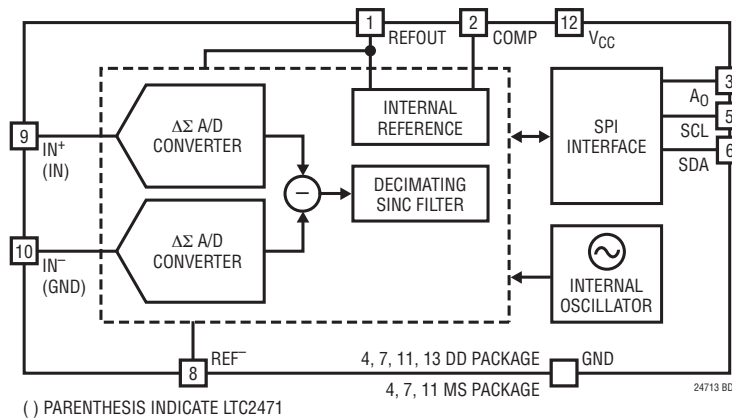
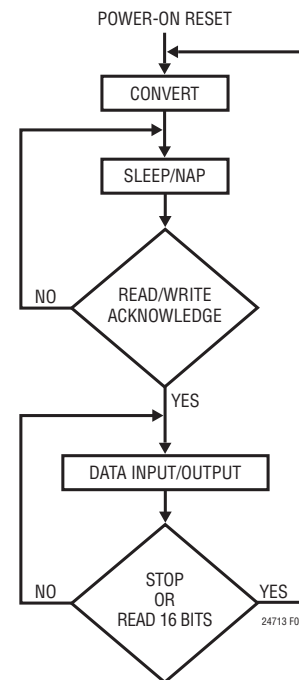
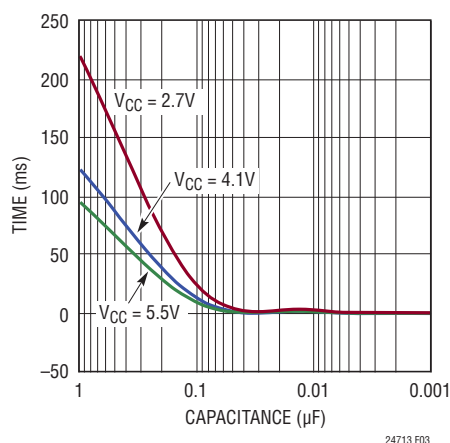
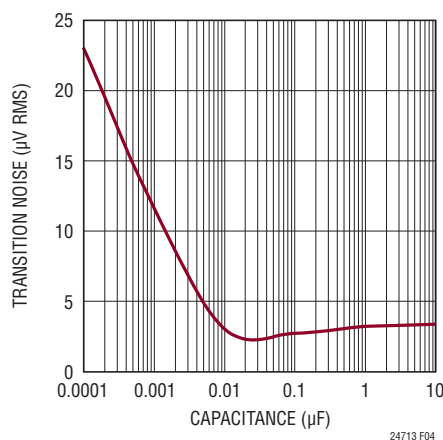

Figure 1. Functional Block Diagram
Figure 2. LTC2471/LTC2473 State Transition Diagram
Figure 3. Reference Start-Up Time vs V_{REF} and Compensation Capacitance
Figure 4. Transition Noise RMS vs COMP and Reference Capacitance
The LTC2471/LTC2473 are low power, delta sigma, analog to digital converters with a simple I²C interface and a user selected 250sps/1ksps output rate (see Figure 1). The LTC2473 has a fully differential input while the LTC2471 is single-ended. Both are pin and software compatible. Their operation is composed of three distinct states: CONVERT, SLEEP/NAP, and DATA INPUT/OUTPUT. The operation begins with the CONVERT state (see Figure 2). Once the conversion is finished, the converter automatically powers down (NAP) or under user control, both the converter and reference are powered down (SLEEP). The conversion result is held in a static register while the device is in this state. The cycle concludes with the DATA INPUT/OUTPUT state. Once all 16-bits are read or an abort is initiated, the device begins a new conversion.
While in the SLEEP/NAP state, the LTC2471/LTC2473's converters are powered down. This reduces the supply current by approximately 70%. While in the NAP state the reference remains powered up. The user can power down both the reference and the converter by enabling the sleep mode during the DATA INPUT/OUTPUT state. Once the next conversion is complete with the sleep mode enabled, the SLEEP state is entered and power is reduced to 2 μ A (maximum). The reference is powered up once a valid read/write is acknowledged. The reference startup time is 12ms (if the reference and compensation capacitor values are both 0.1 μ F). As the reference and compensation capacitors are decreased, the startup time is reduced (see Figure 3), but the transition noise increases (see Figure 4).
approximately 0.5ms. For proper operation V_{DD} needs to be restored to normal operating range (2.7V to 5.5V) before the conclusion of the POR cycle. The POR signal clears all internal registers. Following the POR signal, the LTC2471/LTC2473 start a conversion cycle and follow the succession of states shown in Figure 2. The reference startup time following a POR is 12ms ($C_{COMP} = C_{REFOUT} = 0.1\mu$ F). The first conversion following power-up will be invalid if the reference voltage has not completely settled (see Figure 3). The first conversion following power up can be discarded using the data abort command or simply read and ignored. Depending on the value chosen for C_{COMP} and C_{REFOUT} , the reference startup can take more than one conversion period, see Figure 3. If the startup time is less than 1ms (1ksp/s output rate) or 4ms (250sp/s output rate) then conversions following the first period are accurate to the device specifications. If the startup time exceeds 1ms or 4ms then the user can wait the appropriate time or use the fixed conversion period as a startup timer by ignoring results within the unsettled period. Once the reference has settled, all subsequent conversion results are valid. If the user places the device into the sleep mode ($SLP = 1$, reference powered down) the reference will require a startup time proportional to the value of C_{COMP} and C_{REFOUT} (see Figure 3).
The speed bit (SPD) determines the output rate, SPD = 0 (default) for a 250sps and SPD = 1 for a 1ksps output rate. The sleep bit (SLP) is used to power down the on-chip reference. In the default mode, the reference remains powered up at the conclusion of each conversion cycle while the ADC is automatically powered down at the end of each conversion cycle. If the SLP bit is set HIGH, the reference and the ADC are powered down once the next conversion cycle is completed. The reference and ADC are powered up again once a valid read/write is acknowledged. The following conversion is invalid if the next conversion is started before the reference has started up (see Figure 3 for reference startup times as a function of compensation capacitor and reference capacitor).
The on chip 1.25V reference is internally tied to the converter's reference input and is output to the REFOUT pin. A 0.1 μ F capacitor should be placed on the REFOUT pin. It is possible to reduce this capacitor, but the transition noise increases (see Figure 4). A 0.1 μ F capacitor should also be placed on the COMP pin. This pin is tied to an internal point in the reference and is used for stability. In order for the reference to remain stable, the capacitor placed on the COMP pin must be greater than or equal to the capacitor tied to the REFOUT pin. The REFOUT pin cannot be overridden by an external voltage.
0.1 μ F capacitors are used. The first conversion following power up can be discarded using the data abort command or simply read and ignored. Depending on the value chosen for C_{COMP} and C_{REFOUT} , the reference startup can take more than one conversion period, see Figure 3. If the startup time is less than 1ms (1ksps output rate) or 4ms (250sps output rate) then conversions following the first period are accurate to the device specifications. If the startup time exceeds 1ms or 4ms then the user can wait the appropriate time or use the fixed conversion period as a startup timer by ignoring results within the unsettled period. Once the reference has settled all subsequent conversion results are valid. If the user places the device into the sleep mode ($SLP = 1$, reference powered down) the reference will require a startup time proportional to the value of C_{COMP} and C_{REFOUT} , see Figure 3.